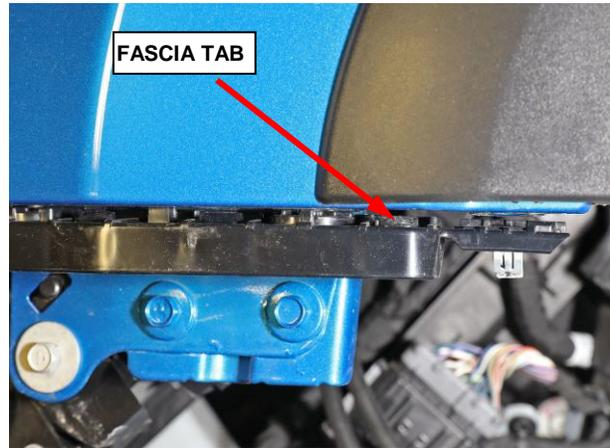

Figure 10 – Barbed Fascia Tab
15. Release the barbed fascia tab just ahead of the bolt (Figure 10).
34. Seat the barbed fascia tab just ahead of the bolt (Figure 10).